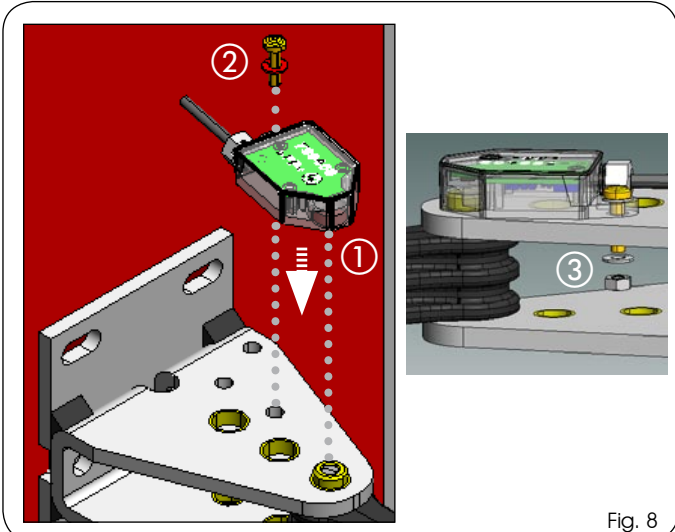

Fig. 8
3. Install the encoder on the rear bracket by correctly engaging it on the pin then fix it with the screw and nut supplied (Fig. 8 re. ① ② ③).